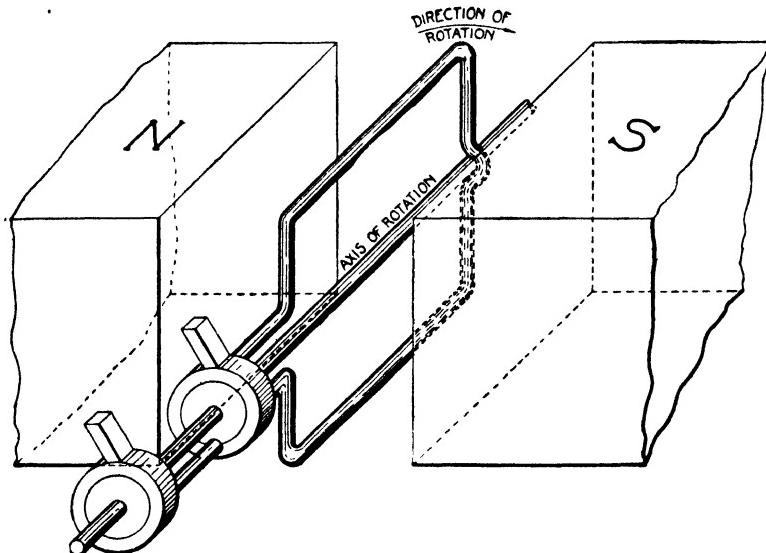

Fig. 11. Simple Alternating-Current Generator
*brushes, connected to the external circuit, as shown in Fig. 11. Such a device constitutes a simple alternating-current generator.*
As the loop of wire in Fig. 11 is made to revolve, an e.m.f. will be induced in it, and this e.m.f. will reverse in direction